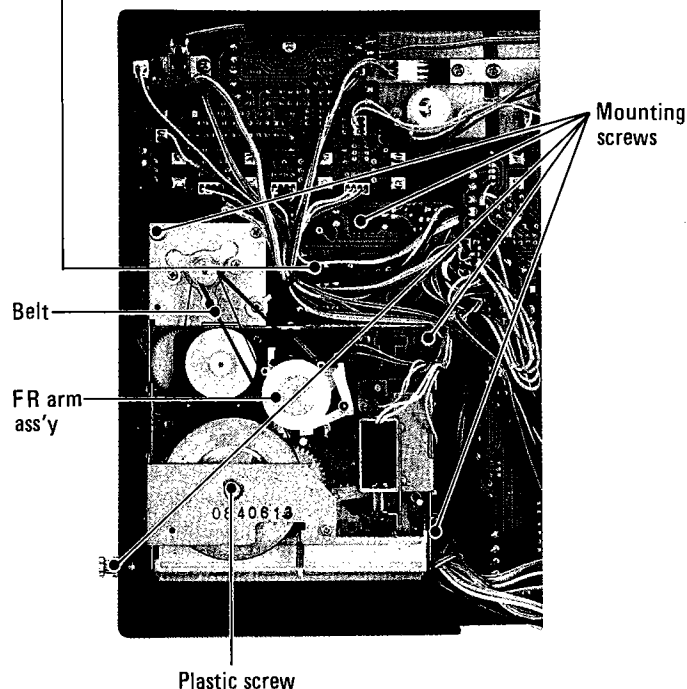

Fig. 7-2 Mechanism assembly
Turn the thrust adjusting screw (plastic) provided on the bottom of the flywheel. Refer to Fig. 7-2.
2. If the torque is out of the limits, change FR Arm Ass'y and belt, if necessary. (Refer to Fig. 7-2)
- d. Adjust the trim pot R2 (Refer to Fig. 7-2) provided on the control PCB with a small "—" driver to obtain 3000 Hz ± 5 Hz reading on the frequency counter.